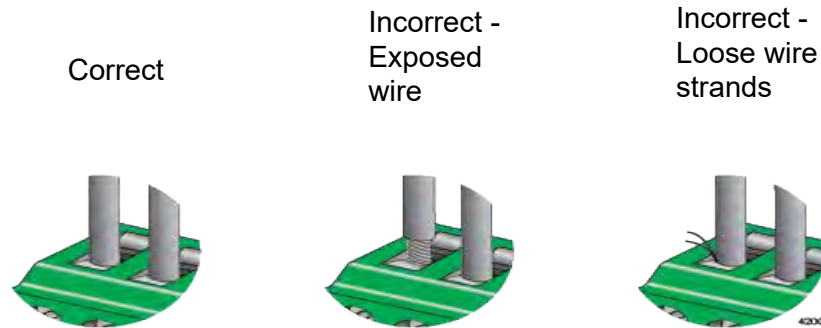

Figure 45. Verify Wire Installation
- After inserting the wires to the connector, verify that there are no exposed wires or loose wire strands. Refer to Figure 45 on page 84.